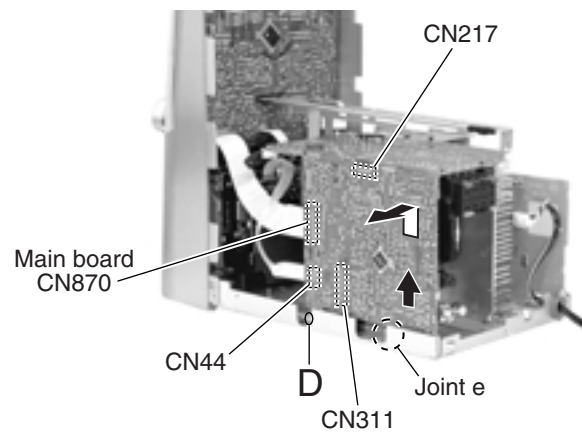

Fig.20
■ **Removing the main board** (See Fig.20)